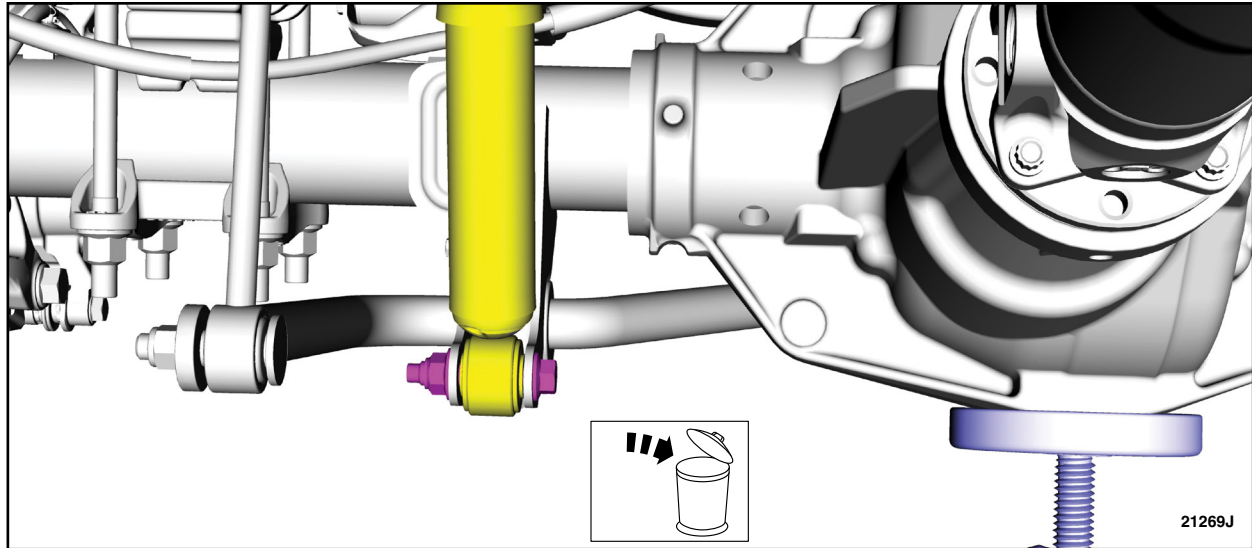

FIGURE 7
7. Remove and discard the lower rear shock absorber nuts and bolts. See Figure 7.